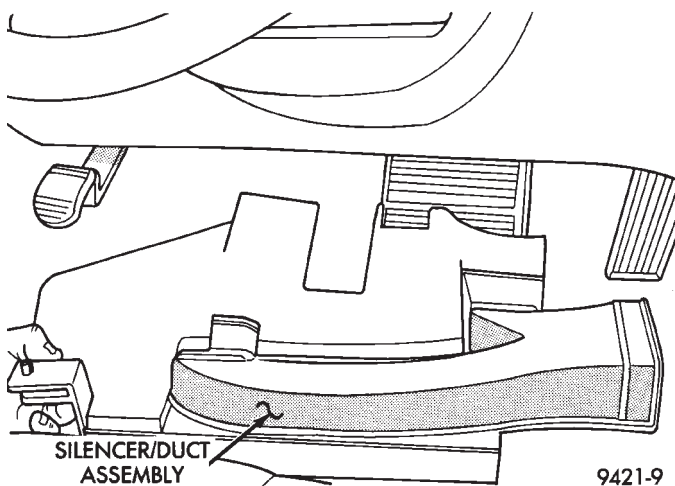

Fig. 13 Panel Removal
(1) Remove under panel silencer/duct assembly (Fig. 13).